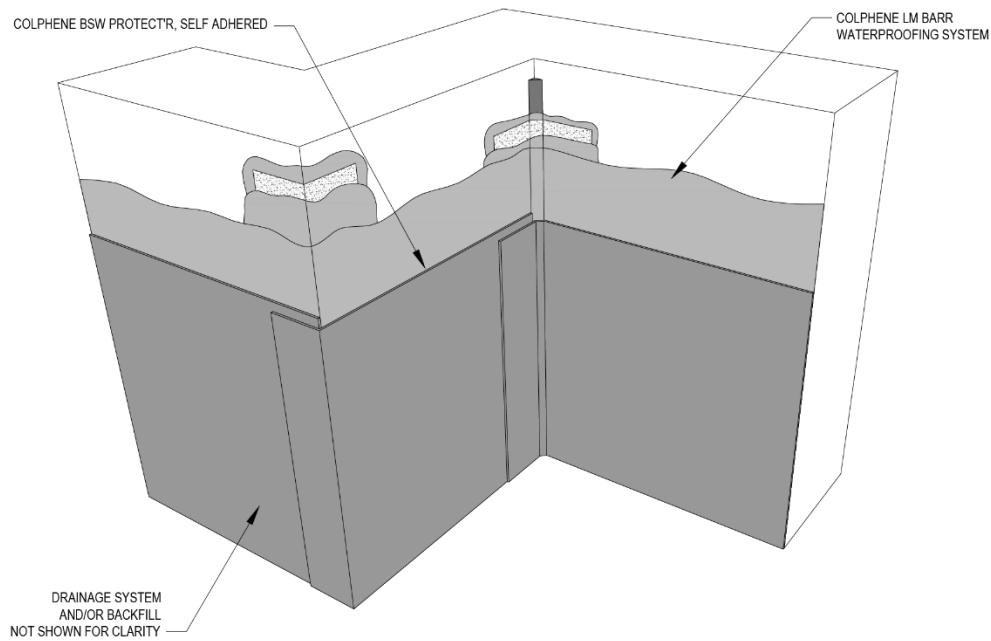
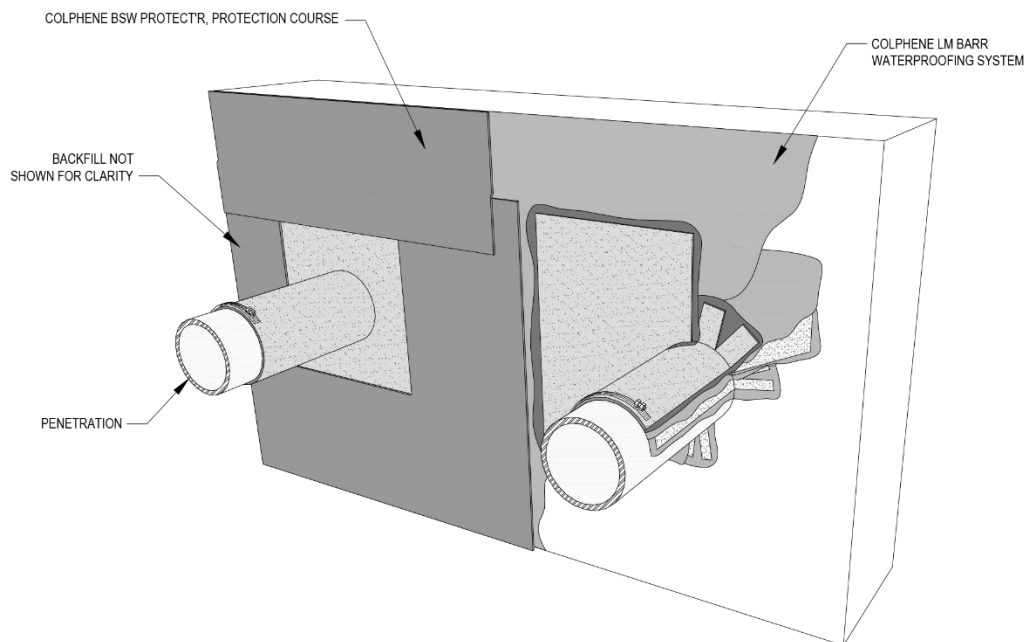
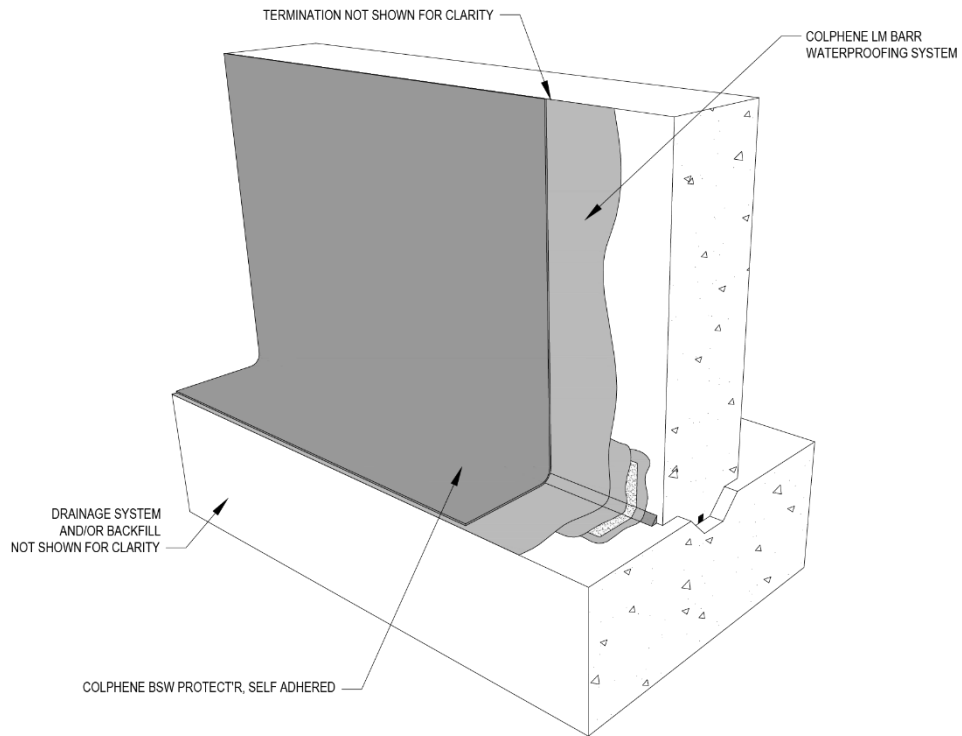

Figure 3.1c COLPHENE® BSW PROTECT'R Protection Course At Inside/Outside Corners
Figure 3.1h COLPHENE® BSW PROTECT'R Protection Course At Penetrations
Figure 3.1m COLPHENE® BSW PROTECT'R Protection Course At Transitions
- Cut the sheet to working lengths and widths to conform to foundation wall conditions. Refer to Figure 3.1c, Figure 3.1h, and Figure 3.1m.